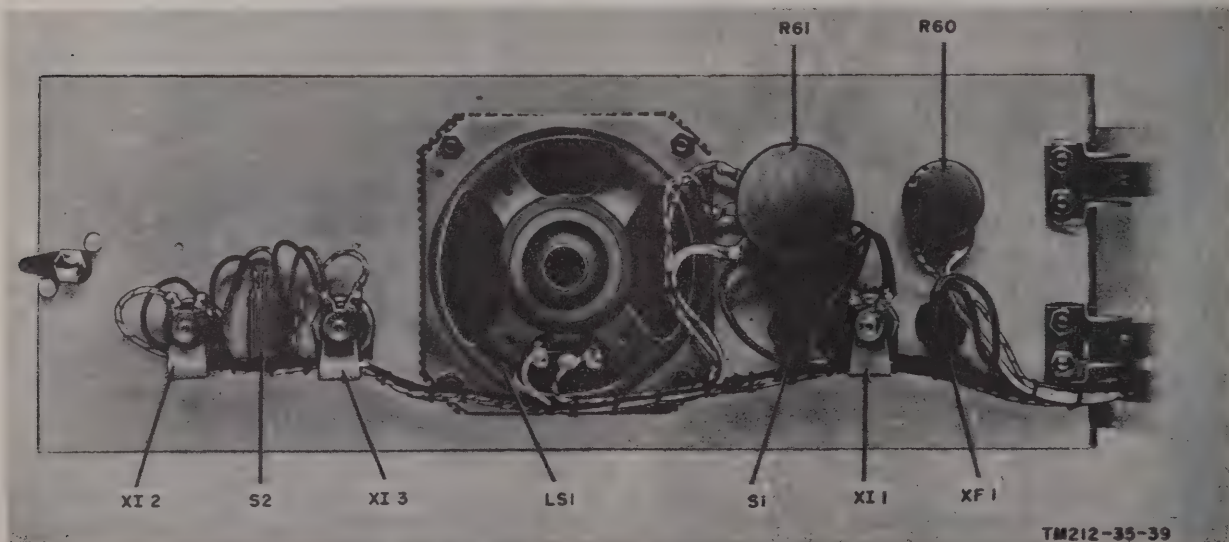

Figure 36. Receiver front panel, location of components.
frequency (AF), IF, and RF sections of the receiver. and for localizing troubles to a stage within the various sections. Location of parts is shown in figures 36, 37, 38, and 39. Depending on the nature of the operational symptoms, one or more of the localizing procedures will be necessary. When use of the procedures results in localization of troubles to a particular stage, use the techniques outlined in paragraph 52 to isolate the trouble to a particular part.
*b. Use of Chart.* The troubleshooting chart is designed to supplement the operational checks detailed in the equipment performance checklist (TM 11-212-20) and the interunit sectionalization checks described in paragraphs 44 and 45. If previous operational checks have resulted in reference to a particular item of this chart, go directly to the referenced item. If no operational symptoms are known, begin with item 1 of the equipment performance checklist (TM 11-212-20) and proceed until the trouble is located.